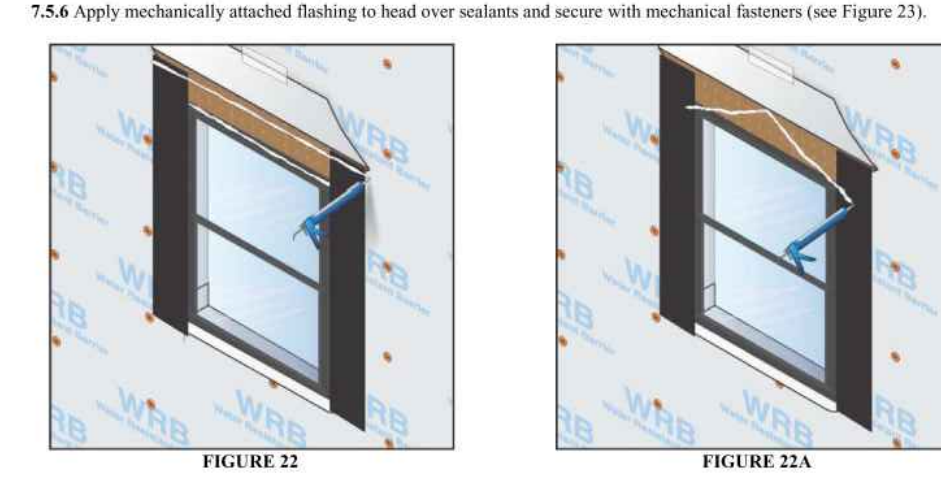

FIGURE 22 FIGURE 22A
7.5.5 Apply a continuous 9 mm (3/8 in) nominal diameter bead of sealant along the head. Apply an additional 9 mm (3/8 in) nominal diameter bead of sealant horizontally 216 mm (8 1/2 in) above the rough opening in line with the top of the jamb flashing (see Figure 22) or as a sloped roof design (see Figure 22A).
**7.6.7** Integration between the door frame and the WRB. Use of self-adhering flashing that is designed for continuous integration between the door frame and the WRB is recommended for doors with exterior casing/brick mold (see Figure 22). Alternatively, apply a continuous 9 mm (3/8 in) nominal diameter bead of sealant around the entire perimeter of the exterior casing/brick molding interface with the WRB. The WRB shall be applied so that it is under the exterior casing/brick molding (WRB Wrap Method B per Section 7.2.1.2 is not permitted).